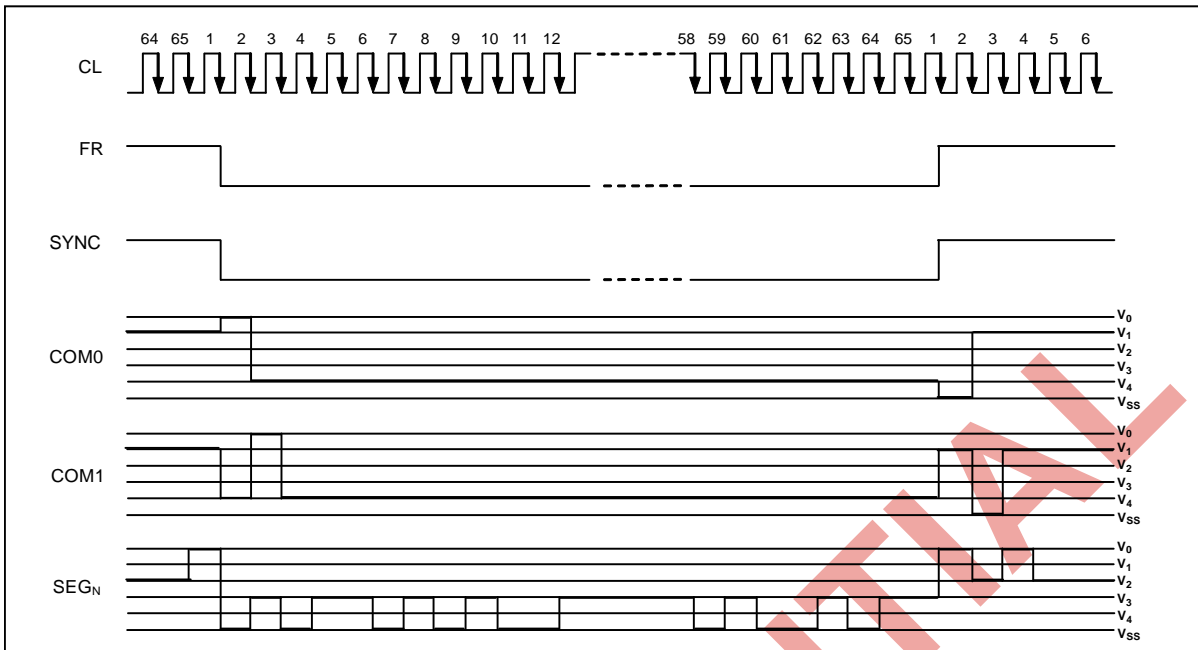
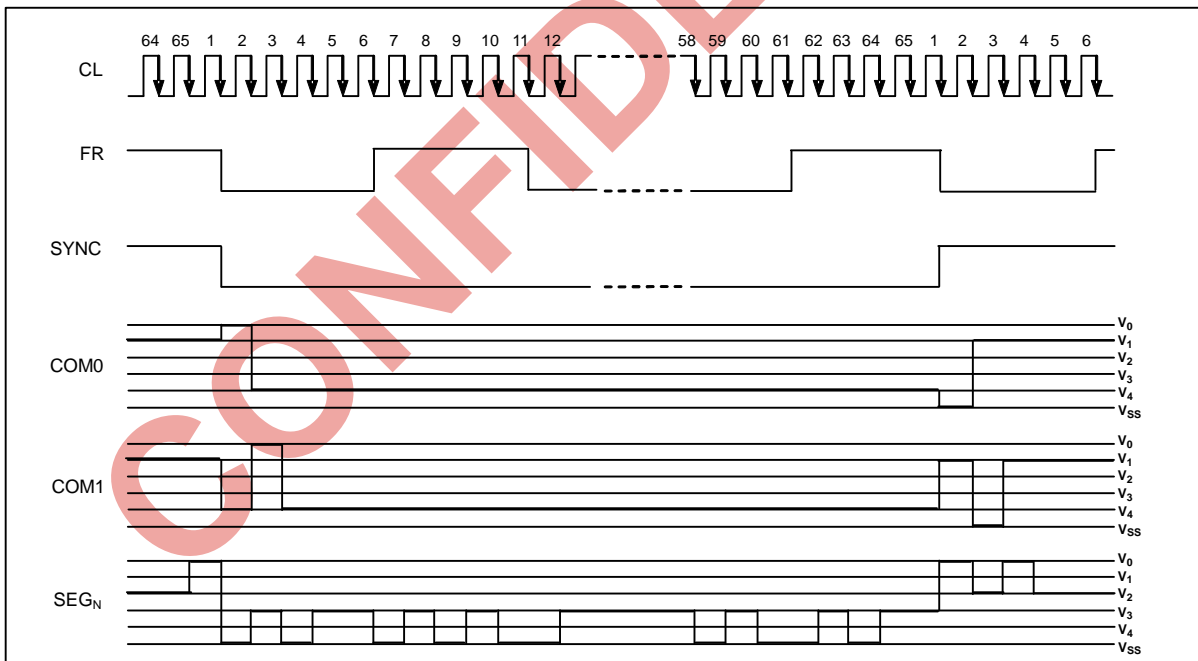

Figure 7. 2-frame Alternating Driving Waveform
Figure 8. n-line Reversal Alternating Driving Waveform
This circuit generates some signals to be used for displaying LCD. The display clock, CL generated by oscillation clock, generates a clock to the line counter and a latch signal to the display data latch. The line address of on-chip RAM is generated in synchronization with the display clock (CL) and the 224-bit display data is latched by the display data latch circuit in synchronization with the display clock. The display data which is read to the LCD driver is completely independent of the access to the display data RAM from the microprocessor. The LCD AC signal, FR is generated from the display clock. 2-frame AC driver waveforms with internal timing signal are shown in figure 7. It can generate n-line reversal alternating drive waveforms by setting data (n-1) to the n-line reversal drive register, the timing signal are shown in figure 8.